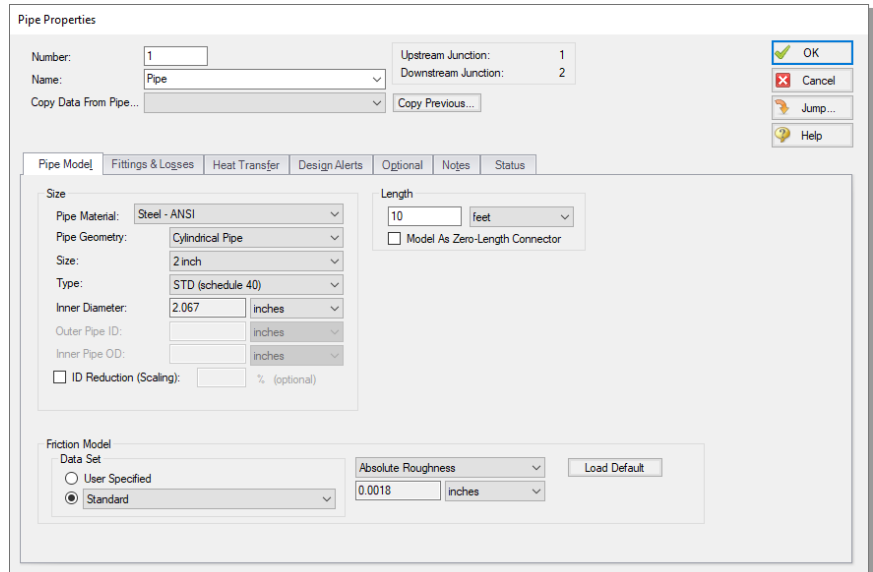

Figure 2.12 Properties window for Pipe P1
- **First, open the Pipe Properties window** for Pipe P1 (see Figure 2.12). For Pipe P1 enter Steel - ANSI, 2 inch, STD (schedule 40), Standard friction model, and a length of 10 feet.